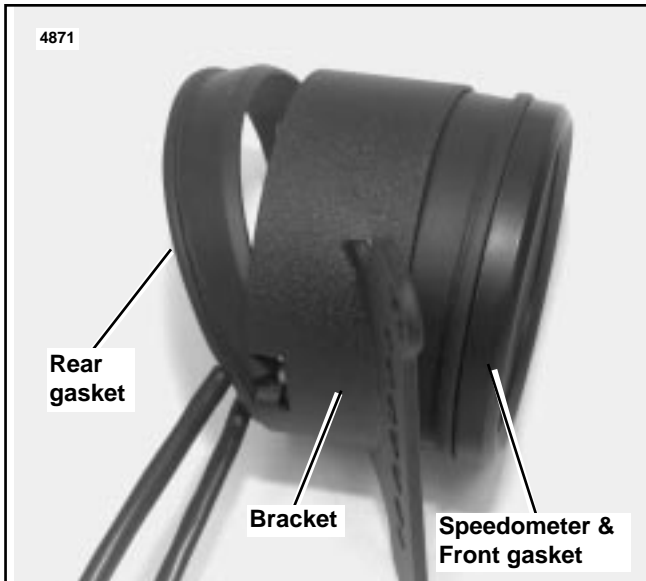

Figure 3. Speedometer and Gaskets in Single Instrument bracket
2. See Figure 3. Note position of rear speedometer gasket and remove it. Push on rear of speedometer while simultaneously pulling speedometer and front gasket from bracket.